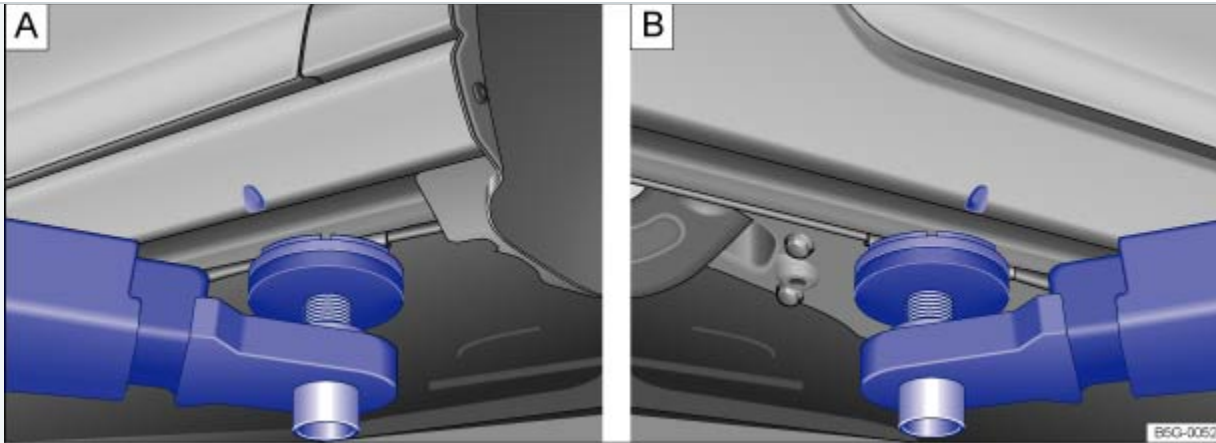
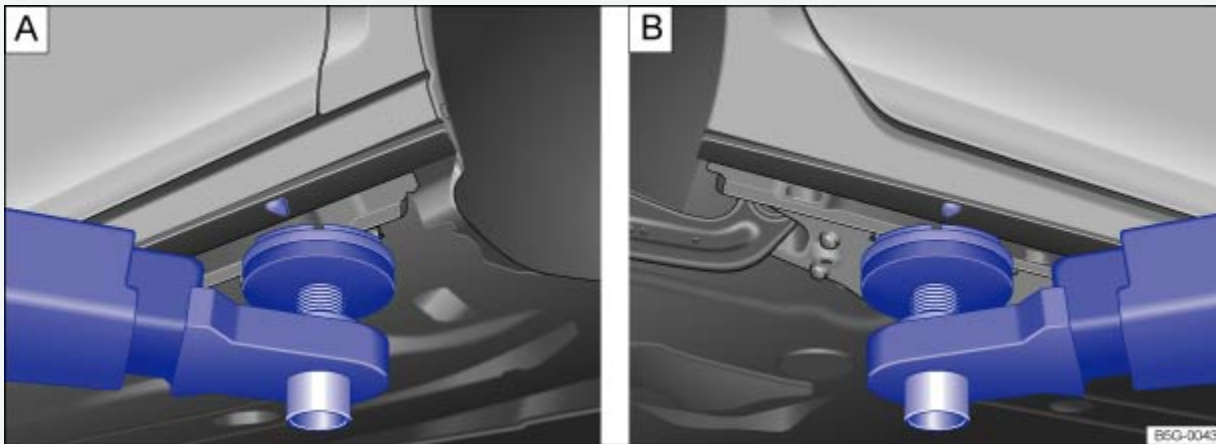

Fig. 206 : Lifting point at the front. : Lifting point at rear for lifting the vehicle using a workshop hoist or floor jack (Golf).
Fig. 207 : Lifting point at the front. : Lifting point at rear for lifting the vehicle using a workshop hoist or floor jack (Golf GTI, Golf R).
The vehicle may only be raised at the lift points shown in the illustration ⇒ Fig. 206 or ⇒ Fig. 207. If the vehicle is lifted at different points, vehicle damage ⇒ and serious injuries may occur ⇒ .
- Always lift your vehicle only at the designated lift points shown in the illustration ⇒ *Fig. 206* or ⇒ *Fig. 207*. Not using the designated lift points can cause the vehicle to fall off the floor jack when heavy parts such as the engine or transmission are removed.